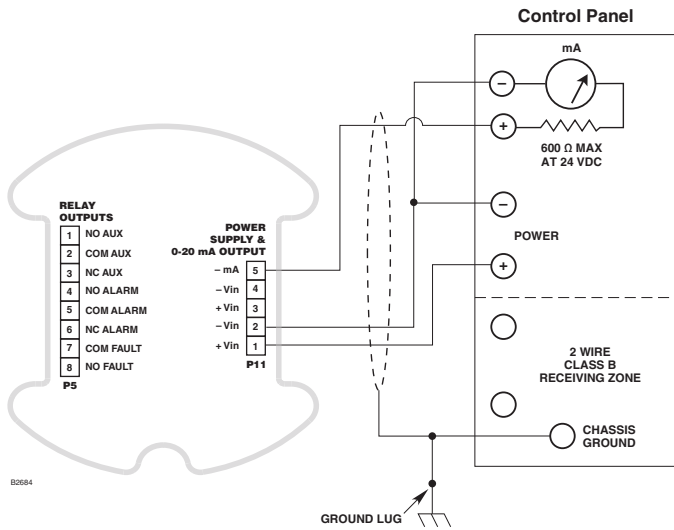

Figure 12—Single Detector Wiring (0-20 mA used, Relays not used)
Depending on the wiring option that is used, jumpers may be required. See Table 3 for the Jumper Usage Guide, and Figures 12 to 15 for wiring examples.
- Figures 12 and 13 show wiring for single detector configurations.